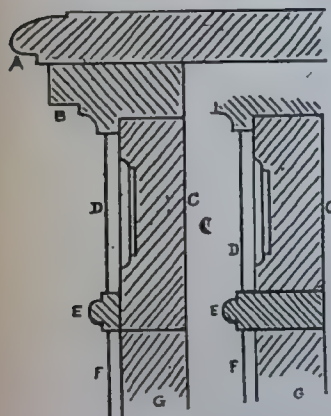

FIG. 4.—SECTION OF TOP AND FRIEZE.
The top shows 1½ in. thick in all. This is made up of the actual top 4 ft. 2½ ins. by 13½ ins. and ⅝ in. thick (see A, Fig. 4). At the back the top overlaps 1½ in. so as to go close against the wall. To make up the 1½ in. thickness a bed mould (¾ in.) is mitred and screwed on from underneath. This is shown in the section, Fig. 4, B. The square
pieces at the parts mentioned (Fig. 4, D), but the whole frieze (C) must in this case be set back 3-16 in. so that the faces of return parts (D) and pilasters (F) are flush. The frieze may be left plain, or panels may be sunk as indicated. In any case small panels should be sunk in the planted-on parts above the pilasters and divisions.